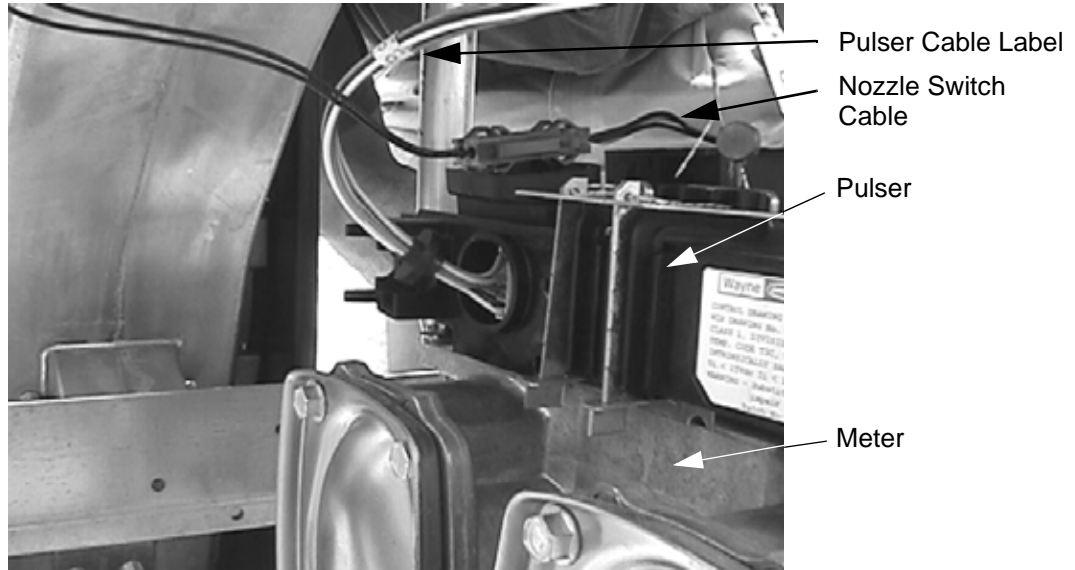

Figure 3-5 Pulser Cable Installation
6. Connect the new pulser/nozzle switch harness cable labelled HI to the middle pulser and the cable labelled LO to the left pulser. Re-use grommet and cover removed earlier. See Figure 3-5.